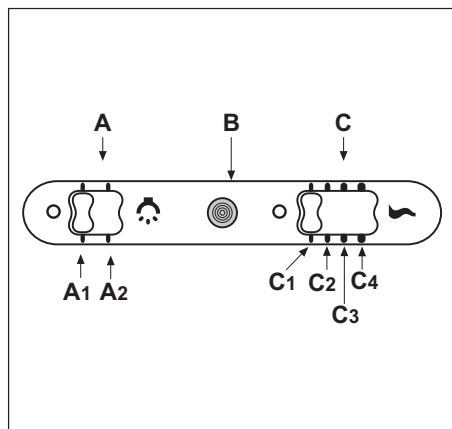

Fig.8
• **COMANDS:** (Fig.8) SLIDER the key symbols are explained below: